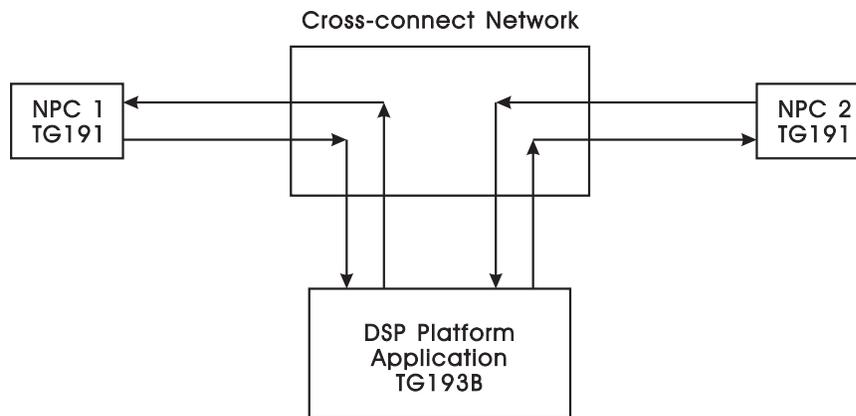

Figure 1-1. Connection Established Between NPC and DSP Circuit Pack
3. The third step is to **establish** the cross-connections between the appropriate facility terminating NPCs and the DSP circuit pack. Establishing these cross-connections is performed by using the application command **SECH**. Please note that channels on the DSP circuit pack must be cross-connected to channels on the appropriate facility terminating NPCs before cross-connections of subrate circuits can be made. These connections are illustrated in Figure 1-1.